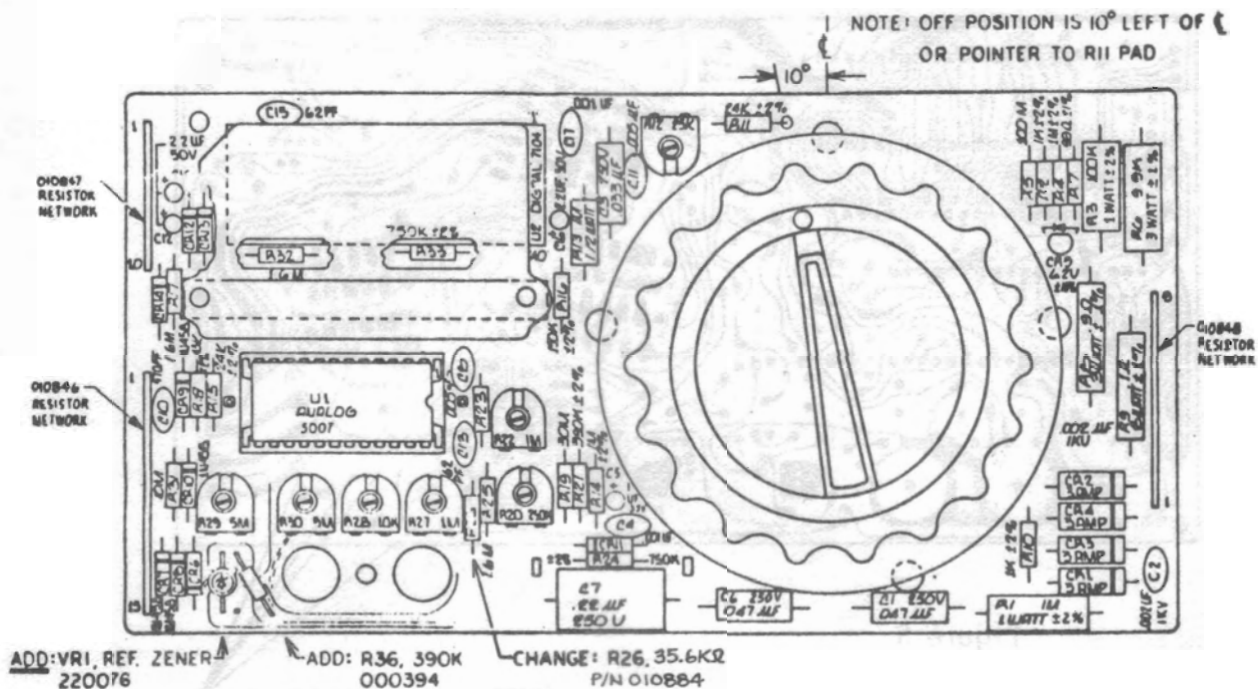
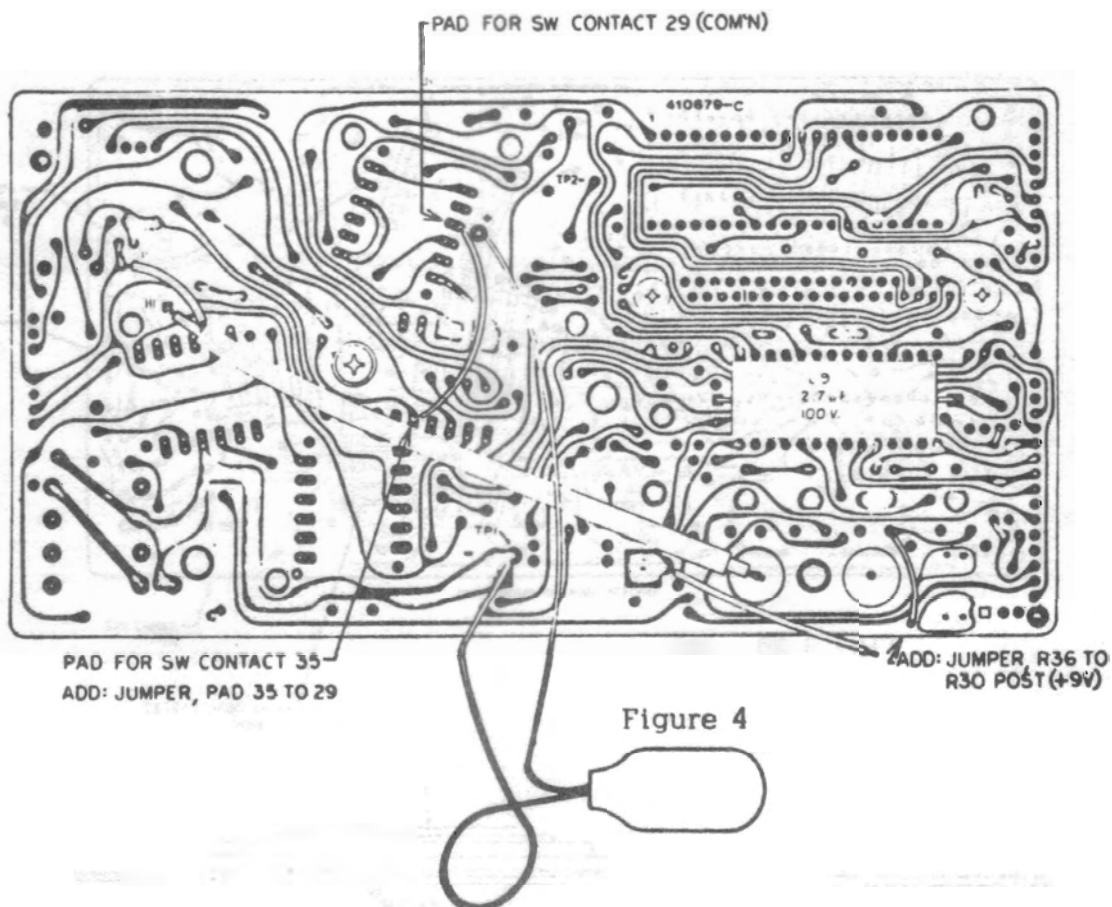

Figure 3
Figure 4
10. Drill an 0.047 (3/64) inch hole in the approximate location shown on Figure 3, free from any adjacent etch lines on the component and circuit side of the PCB.
12. Install a 390K Ohm, 5%, 1/4 Watt, carbon resistor, R36, from a hole, previously occupied by the reference cell clip connector; to the drilled hole outlined in Figure 3. The drilled hole lead must be sleeved on the circuit side with teflon tubing and terminated or jumpered to a pad for the mounting post for potentiometer, R30. Solder all terminations. See Figure 4.
13. Install the Reference Zener diode, VR1, to the remaining, unused pads previously occupied by the clip connectors for the reference cell. The tab on the can of the zener should point towards the center of the PCB (see Figure 3) before soldering into place on both sides of the assembly.
14. Install a jumper from switch contact pad # 29 (common) to switch contact pad # 35, which permanently connects the anode of VR1 to common, disabling switch # 35. See Figure 4.